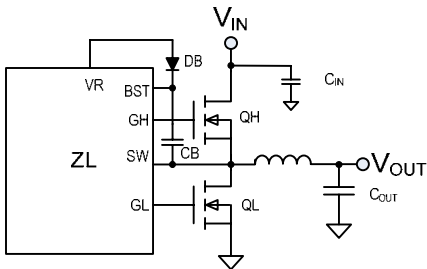

Figure 6. Synchronous Buck Converter
Figure 6 illustrates the basic synchronous buck converter topology showing the primary power train components. This converter is also called a step-down converter, as the output voltage must always be lower than the input voltage. In its most simple configuration, the ZL2008 requires two external N-channel power MOSFETs, one for the top control MOSFET (QH) and one for the bottom synchronous MOSFET (QL). The
Typically, buck converters specify a maximum duty cycle that effectively limits the maximum output voltage that can be realized for a given input voltage. This duty cycle limit ensures that the lowside MOSFET is allowed to turn on for a minimum amount of time during each switching cycle, which enables the bootstrap capacitor (CB in Figure 6) to be charged up and provide adequate gate drive voltage for the high-side MOSFET. See Section 5.2, “High-side Driver Boost Circuit,” for more details.
The gate drive voltage for the high-side MOSFET driver is generated by a floating bootstrap capacitor, CB (see Figure 6). When the lower MOSFET (QL) is turned on, the SW node is pulled to ground and the capacitor is charged from the internal VR bias regulator through diode DB. When QL turns off and the upper MOSFET (QH) turns on, the SW node is pulled up to V_{DD} and the voltage on the bootstrap capacitor is boosted approximately 5 V above V_{DD} to provide the necessary voltage to power the high-side driver. A Schottky diode should be used for DB to help maximize the high-side drive supply voltage.